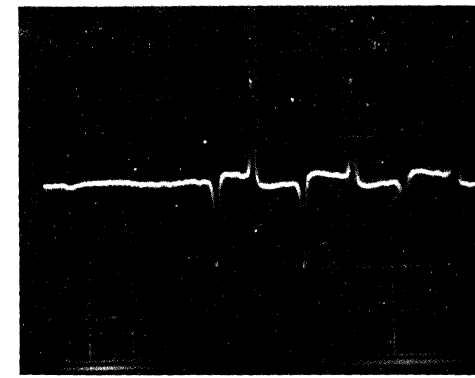

FIGURE 10. INDEX TIMING
- f. Observe the timing between the start of the sweep and the first data pulse. This should be $200 \pm 100 \mu$ sec. If the timing is not within tolerance, continue on with the adjustment. Reference figure 10.